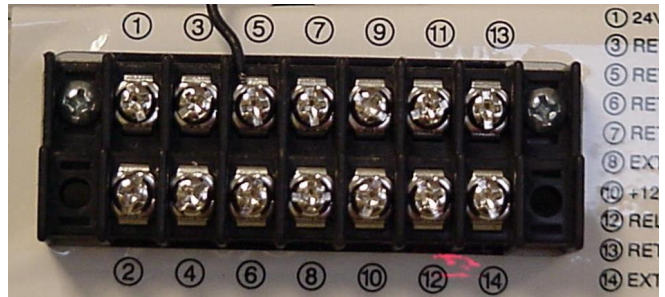

Figure 15. Extend/Retract Common
1. Install a wire between terminal 5 (extend/retract common) and the ground/common of a power source (5-30 volts). See Figure 15.